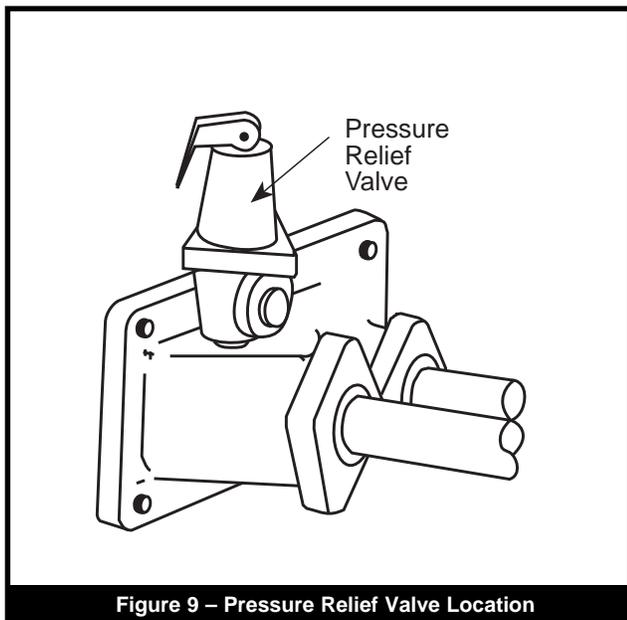

Figure 9 – Pressure Relief Valve Location
- The pressure relief valve installed in the tapped opening provided in the outlet header (See **Figure 9**), must be piped, but not fastened, to a drain or floor sink. The drain pipe must be the same size as the valve outlet and must pitch downward from the valve.